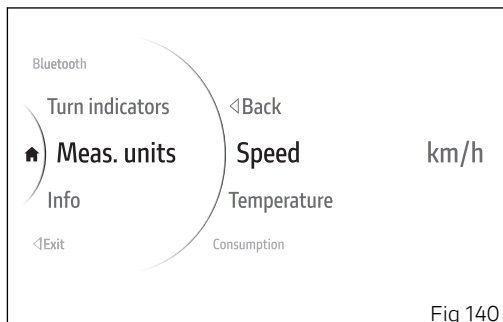

Fig 140
- Use buttons (1) and (2) from the Interactive Menu to select the "Setting menu" item and press ENTER (3).
- Select the "Measurement Units" item and press ENTER (3).
- Select the "Speed" item and press ENTER (3) (Fig 140).